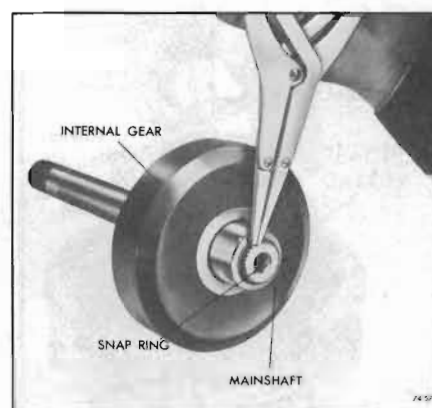

Figure 74-584
2. Install internal gear retaining snap ring. See Figure 74-584.